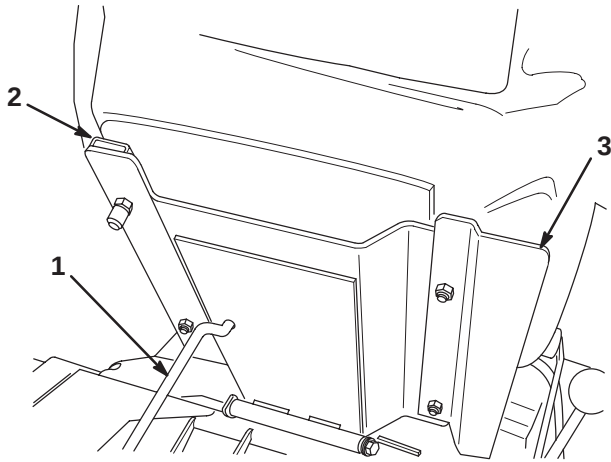

Figure 4
3. Secure the seat, seat panel, and seat slides to the seat support with the locknuts (5/16 in.) (Fig. 4) supplied in the loose parts. Mount the seat panel on the right side, positioned as shown in Figure 4.